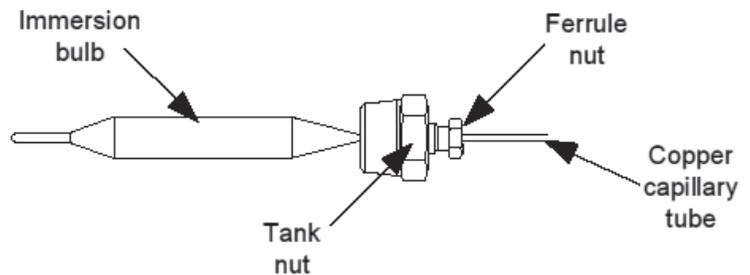

Figure 11
3. Loosen ferrule nut of the immersion bulb (see Figure 11).
4. Position tank nut at end of immersion bulb as shown in Figure 11. Insert immersion bulb into tank and tighten tank nut.
5. Gently pull copper capillary tube to insure the immersion bulb is in a horizontal position as shown in Figure 11 and tighten ferrule nut.